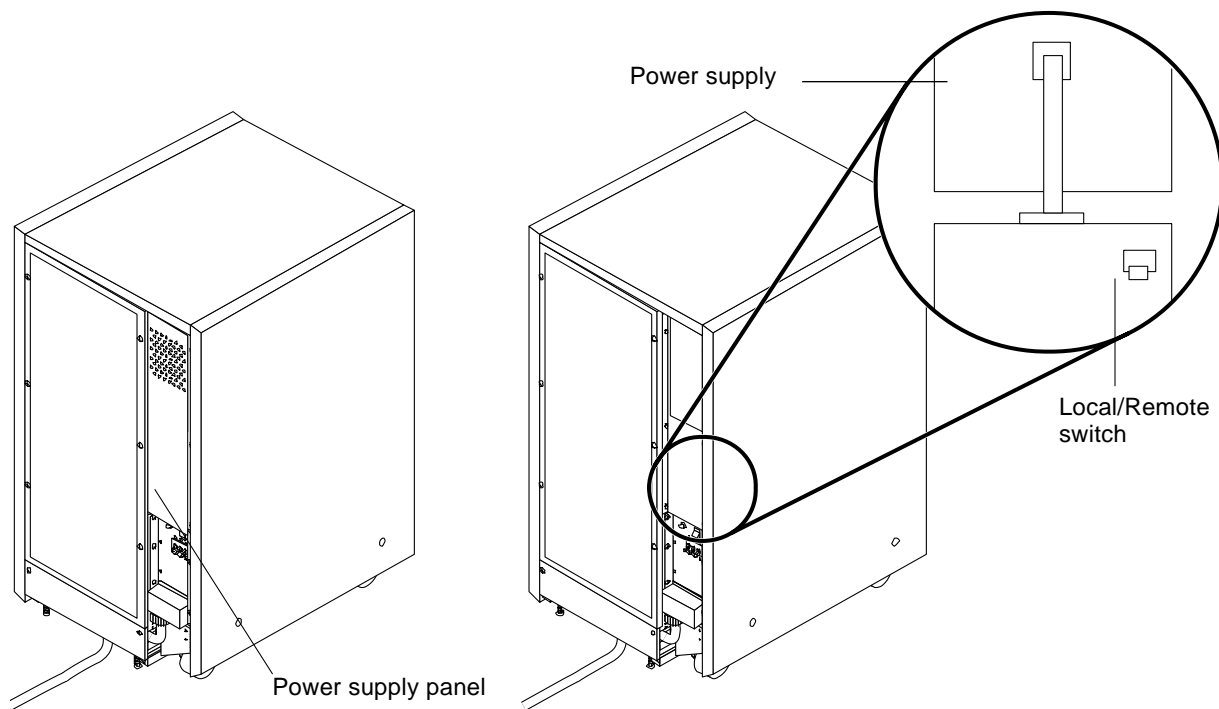

Figure 7-20 Power Supply Cable Location
5. **See Figure 7-20 and remove the Power Supply cover by loosening six screws (it is not necessary to remove the screws).**
6. **See Figure 7-20 and position the Local/Remote switch on the AC distribution unit to the LOCAL position.**